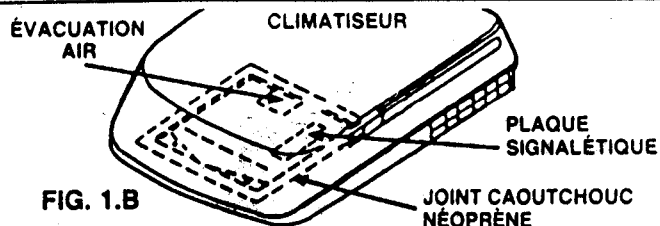

FIG. 1.B
B. CARACTÉRISTIQUES (FIG. 1.B)